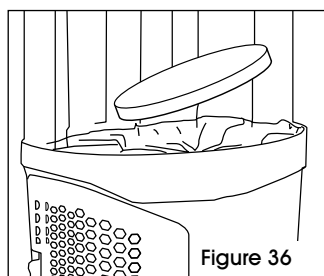

Figure 36
1. If the filter becomes dirty, pull off the grill and lift out the filter. Hand rinse in cold water under low pressure. Let filter dry for 24 hours. Reposition dry filter and snap grill into place. (See Figure 36)